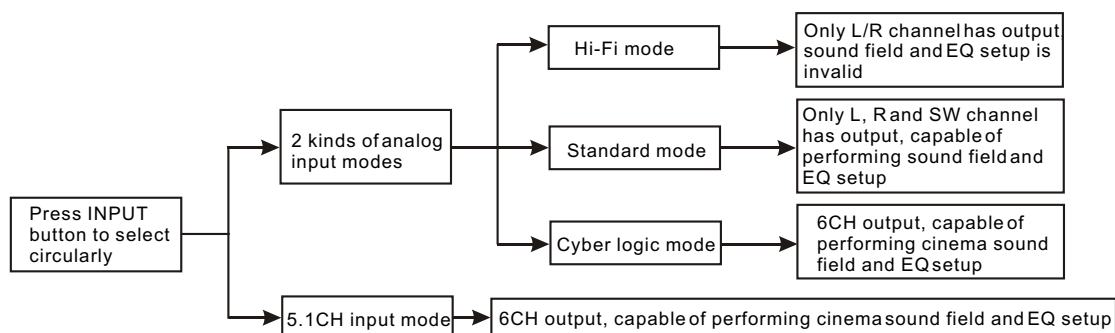

Figure 3.2.1.2 Illustration between input circuit
(1) 5.1CH input state: now A, B, 5.1CH of M62446 are in high level, L and R channel signals of 5.1CH input terminal are outputted from pin 3, 13 of N101 respectively and then sent to IC N106 for volume and tone adjustment; meanwhile C, SR, SL signals of 5.1CH input terminal are outputted from pin 14, 15, 4 of N102 and then sent to IC N106 for separate volume adjustment; in addition, SW signal of 5.1CH is outputted through pin 4 of N103, amplified by N107A and then sent to M62446.
(2) 3 kinds of analog input modes: AV225T (RU) has 3 kinds of analog input modes: tuning signal, VCD and DVD are controlled through signals A, B separately. Please refer to CD53 truth value table for reference.
(3) AV225T (RU) has 3 kinds of sound field modes in all: standard, Cyber logic and Hi-Fi.
(4) The relationship between the switch in all kinds of sound sources and sound handling mode in input circuit is shown as the following figure 3.2.1.2: